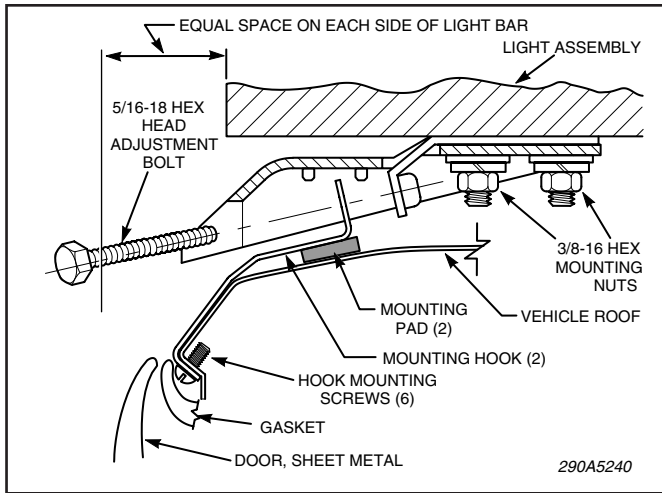

Figure 1.
2. See figure 1. Determine where the hook will attach to the vehicle.
3. Place the hook in position on the roof sheet metal as shown in figure 1.
5. Drill three (3) .147" diameter holes (#26 drill bit) at the marked locations.
7. Secure the hook using three sheet metal screws provided (#10 thread-forming) as shown in figure 1.